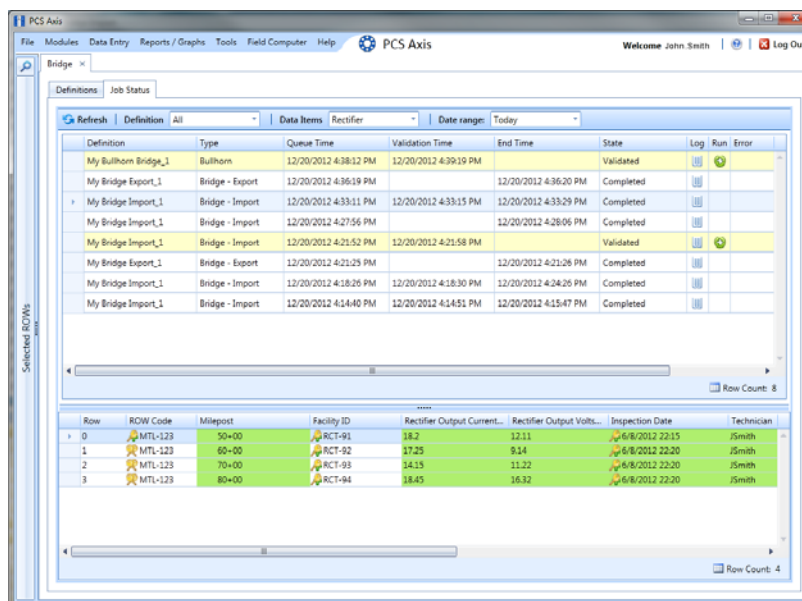

Figure 9-26. Job Status
- 25 To view the status of a Bridge session, click **Job Status** in the *Definitions* window to open the *Job Status* window (Figure 9-26). Clicking **Log** for a Bridge session opens the log file for the selected session.